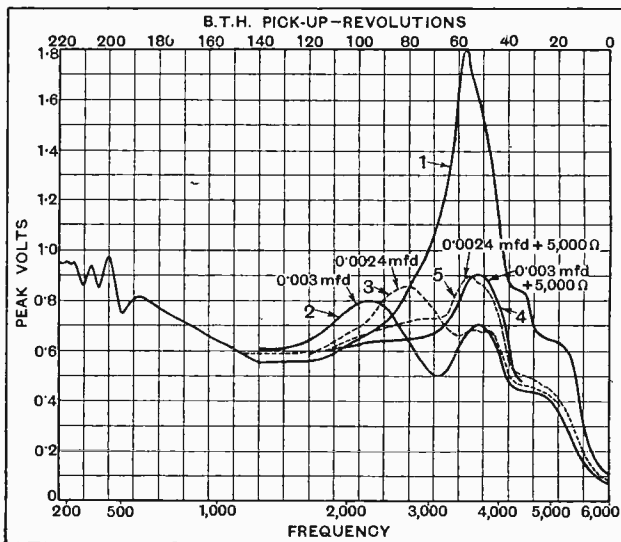
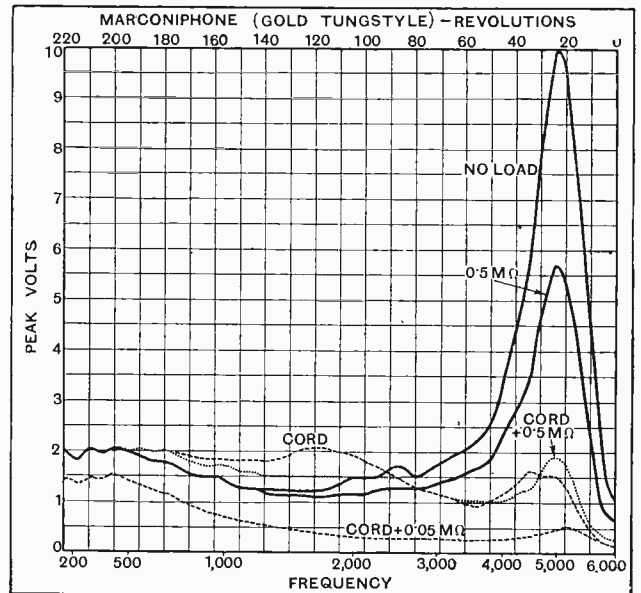

Fig. 2.—Curves showing the effect of different compensating filters on the characteristics of a B.T.H. pick-up.
Fig. 4.—The capacity and power factor loss of a long connecting cord are strikingly brought out by these curves.
Fig. 2 (1) shows the output characteristic of the newest type B.T.H. pick-up with a medium "chromic" needle. The voltage at the resonance peak is nearly double that at any other part of the curve, and consequently overloading may easily occur on the high notes.
voltage of 9.8 was obtained at 5,000 cycles, as shown in Fig. 4. A 0.5-megohm load, as recommended by the makers, reduced this to 5.7, but even so it is evidently inadvisable to connect the pick-up to a valve with only 2 or 3 volts grid bias. Another curve shows that connection of the cord, as well as the resistance, almost causes the disappearance of the peak. The vertical scale in Fig. 4 is one-fifth that of Figs. 2 and 3, and the two broken-line curves of Fig. 3 have been reproduced in Fig. 4 to show the relative magnitudes.